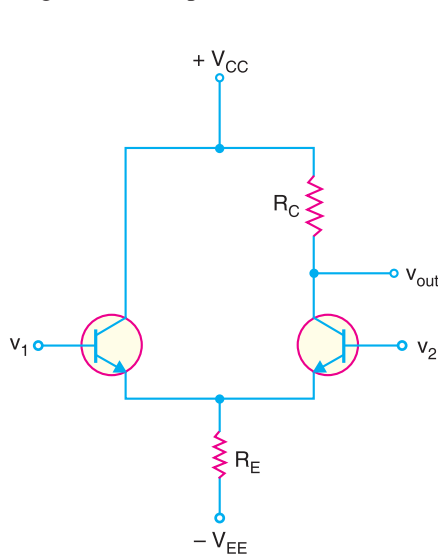
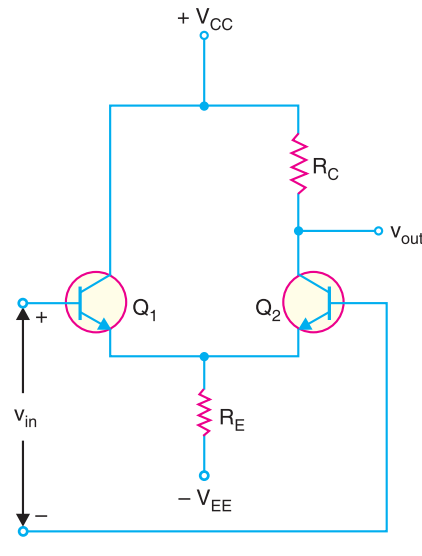
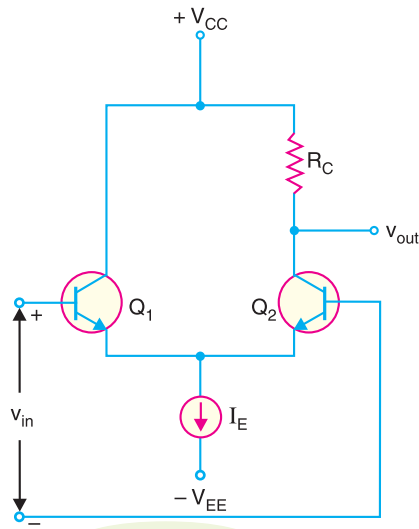
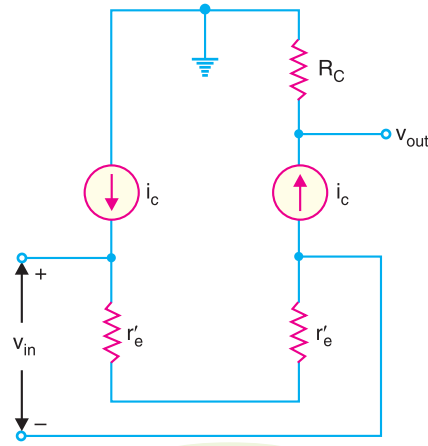

Fig. 25.27
Fig. 25.28
Fig. 25.29
Fig. 25.30
A differential amplifier (*DA*) has a noninverting input and an inverting input. Fig. 25.27 shows the differential amplifier (*DA*) that is used in *IC OP-* amps. Note the circuit has double-ended input and single-ended output.
If you look at the differential amplifier circuit in Fig. 25.27, it responds to the difference between the voltages at the two input terminals. In other words, *DA* responds to $v_{in} (= v_1 - v_2)$. Therefore, the circuit shown in Fig. 25.27 can be drawn as shown in Fig. 25.28.
Ideally (*i.e.*, V_{BE} is negligible), the tail current I_E in Fig. 25.27 is $I_E = V_{EE}/R_E$. Once the values of V_{EE} and R_E are set, the tail current is constant. Therefore, to simplify a.c. analysis, we can replace the tail current by a current source (I_E) as shown in Fig. 25.29. This will simplify the a.c. analysis of the circuit with almost no loss of accuracy.
A.C. Equivalent Circuit. We can easily find the a.c. equivalent circuit of differential amplifier by applying the usual rules to Fig. 25.29. The rules are to short all the capacitors, and reduce all d.c. sources to zero. Since a differential amplifier has no capacitors, all that we have to do is to reduce the d.c. sources to zero. Reducing a voltage source to zero is equivalent to replacing it by a short. Reducing a current source to zero is equivalent to opening it. In Fig. 25.29, this means ground the V_{CC} point, ground the V_{EE} point and open the current source. Applying these conditions to Fig. 25.29, we get the a.c. equivalent circuit of differential amplifier shown in Fig. 25.30.
Voltage gain. Fig. 25.30 shows the a.c. equivalent circuit of a differential amplifier. This is how a differential amplifier looks to an a.c. signal. Note that r'_e ($= 25 \text{ mV/d.c. emitter current}$) is the a.c. emitter resistance. Since the two r'_e 's are in series, the same a.c. emitter current exists in both transistors. The a.c. emitter current is given by;